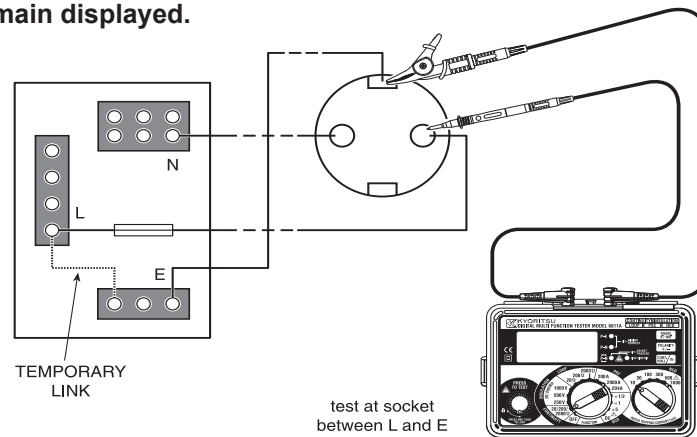

Fig 3
5. Connect the test leads to the circuit whose resistance is required (see Fig 3 for a typical connection arrangement). Having first made sure **that the circuit is not live**. Note that the live circuit warning lamp will illuminate if the circuit is live - but check first anyway!